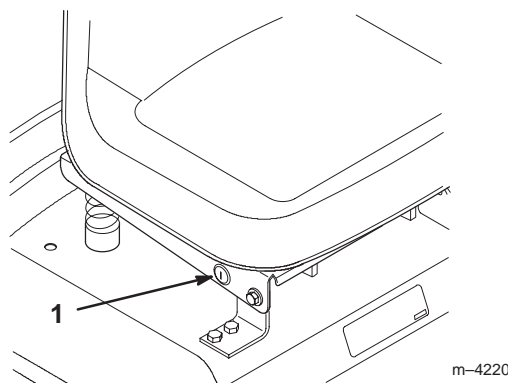

Figure 7
If you need to use the PTO while backing up, you can turn off this interlock feature using the KeyChoice switch located near the seat bracket (Fig. 7).
2. Insert the KeyChoice key into the switch (Fig. 7).